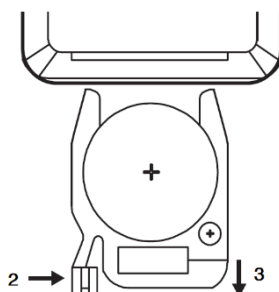

Figure 2
2. If the battery of the remote control needs to be replaced, (see Figure 2), the first step is to push the lock in the direction of arrow 2, the second step is to pull the cover in the direction of arrow 3. Replace the battery, then push the cover into the remote control in the opposite direction of the arrow 3, until it is locked.